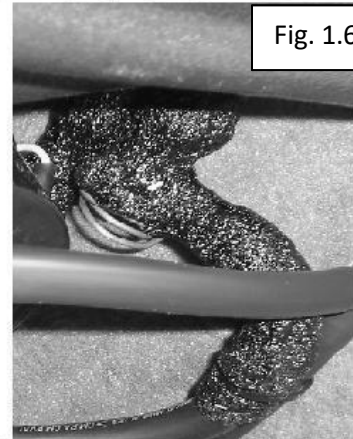

Fig. 1.6
- 12) After the a/c hoses are connected use the black cork tape to cover the metal fittings, and connections at the evaporator box. See figure 1.6